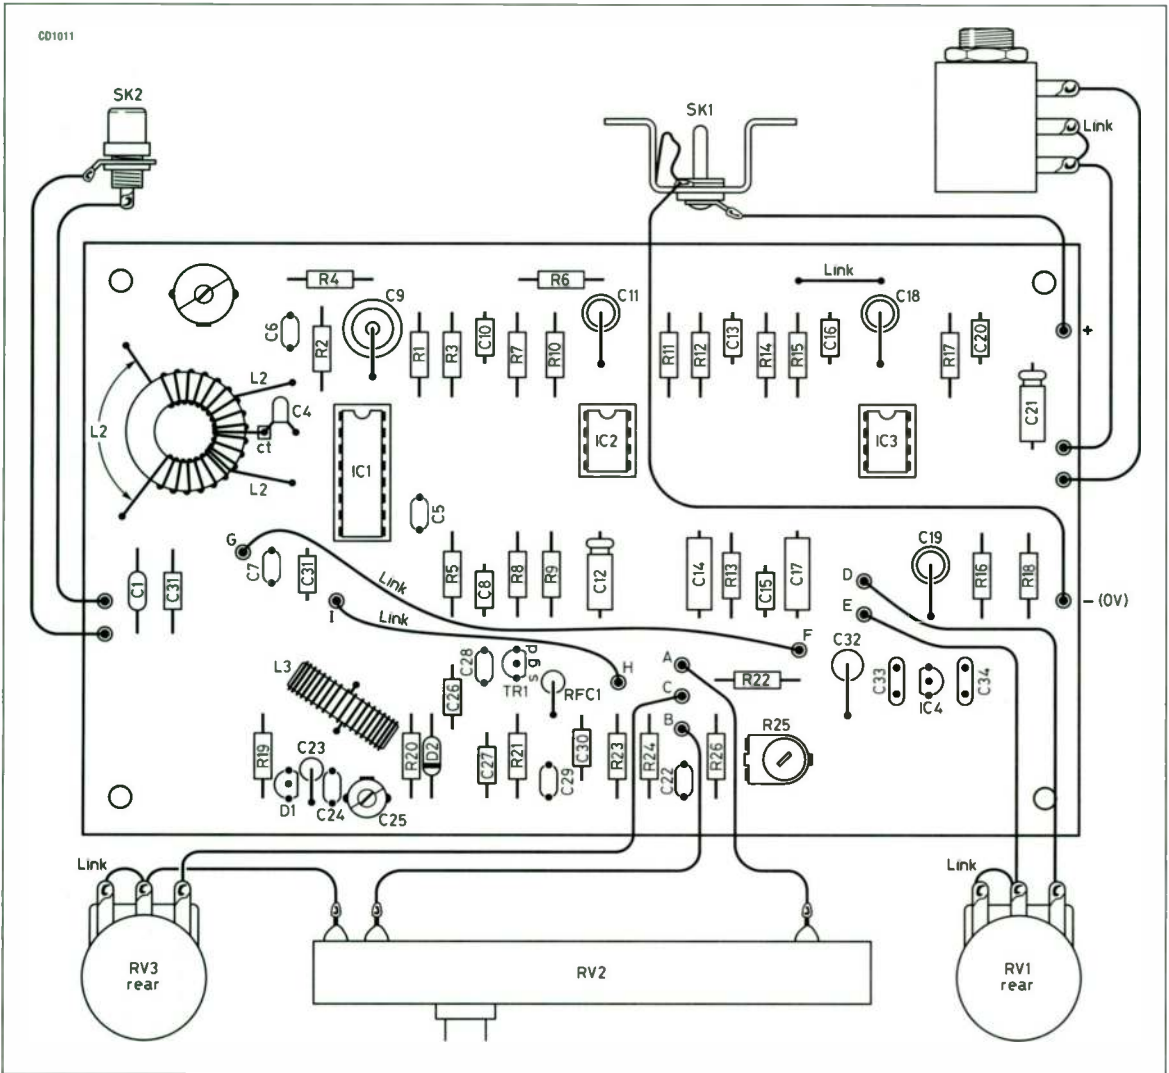
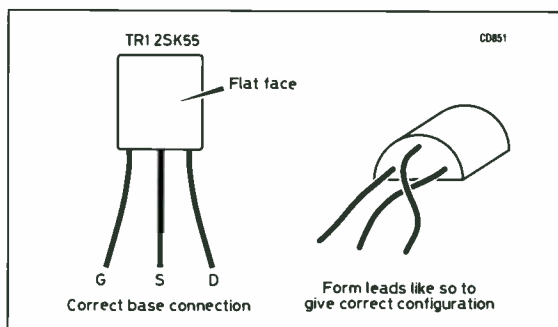

Fig 4.6. The components should be mounted exactly as shown above. See also Fig 4.7
Fig 4.8. Forming the leads of TR1
- Put the inductors aside – they will be soldered onto the PCB at a later stage. Using the layout diagram in Fig 4.6 as a guide, mount the three IC sockets (one 16-pin, two 8-pin DIL) and solder them in place. Be careful not to bridge adjacent pins with solder, and notice that there are a few very thin tracks which actually run in between some of the pads that must be soldered. Note: do not insert the ICs at this stage.
7. Switch the PSU off and insert IC2 and IC3 – Fig 4.6 indicates the correct mounting direction. You may need to bend the IC pins inwards slightly before pushing them into the sockets. Now switch the PSU on again and once more measure the voltage at the junction of R7/R8, ie pin 3 of IC2. The reading should be the same as before. Also measure the voltage on pins 1 and 7 of both IC2 and IC3; all four readings should be equal and approximate to half the supply voltage.
9. Mount the inductor carrying windings L1 and L2 so that the tails of L1 (the 20-turn winding) are soldered at the extreme left-hand side of the board. Solder C4 into place so that one lead is connected to the centre tap of L2, as shown in Fig 4.6. Now mount IC4 (be careful to get this device the right way round) and C32–34 (note that C32 is mounted vertically). Finally, make the link between points F and G using PVC-covered wire.
11. Insert R19–26, C22–31, D1, D2, TR1 (see Fig 4.8 for the correct insertion of TR1 – the leads need to be crossed over due to an error in the original PCB layout), the RFC and L3. Fig 4.5 clarifies the semiconductor connections. C23, the RFC and L3 are mounted vertically. Make the link between points H and I using PVC-covered wire, and then solder the three flying leads to points A, B and C. Finally, connect the potentiometers RV2 and RV3 as shown in Fig 4.6.
The sockets and potentiometers are mounted in the positions inferred by Fig 4.6. The obvious physical differences between each socket will make identification and positioning quite straightforward. If in doubt, have a look at the photograph of the RC14 on page 49. It may be necessary at this stage to shorten some of the flying leads, thus giving a tidier appearance.